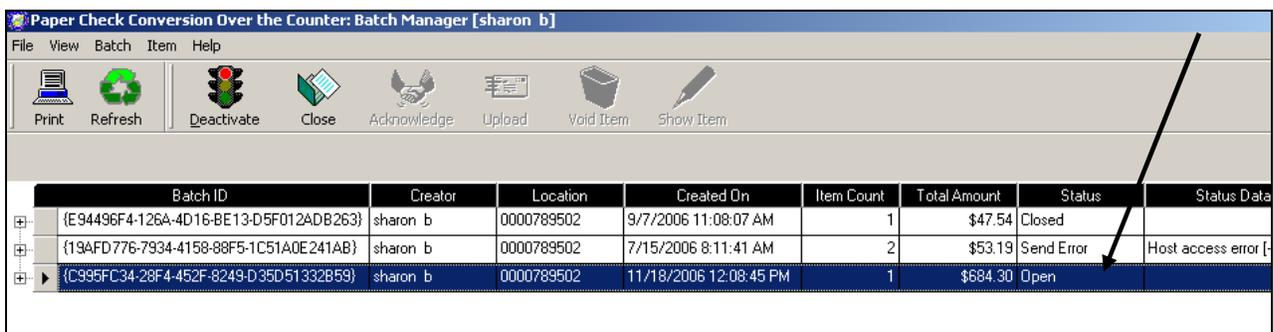

Figure 4.12
1. Click to select the open batch to be closed. The 'Close' icon at the top of the screen becomes active. (Figure 4.12)